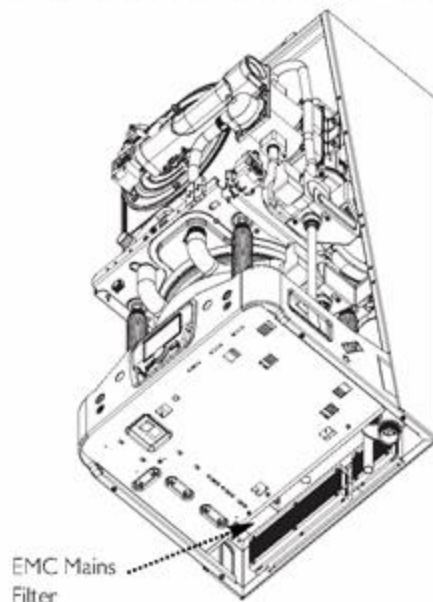

Fig. 69a
14.18 EMC Mains Filter (Figs. 69a)
4. Undo the screws securing the filter to the underside of the panel (Fig. 69a). Remove the earth tag.